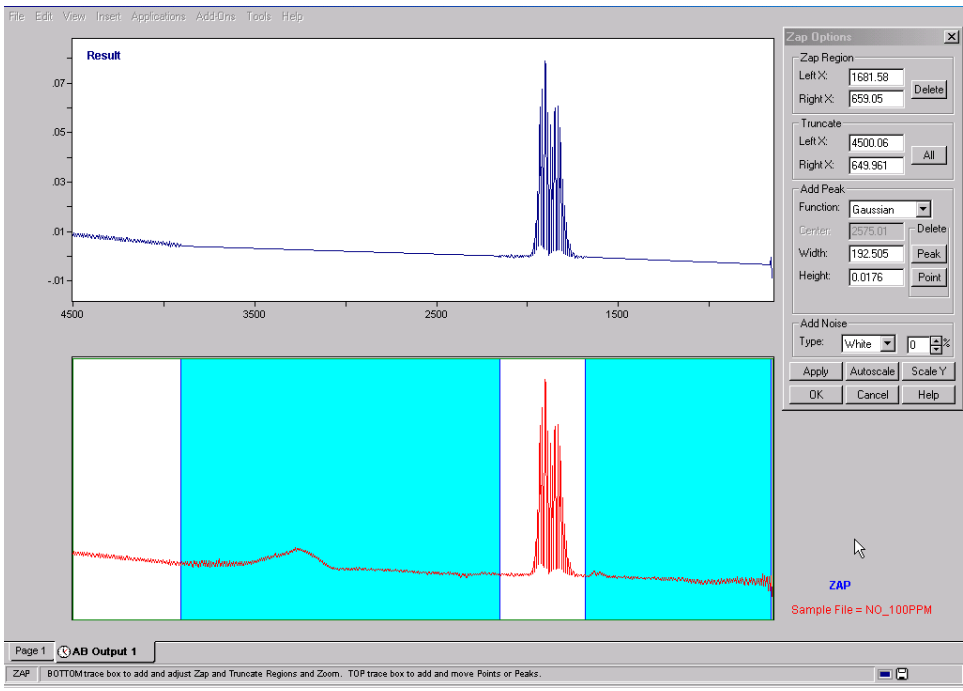

Figure 7.11 Zap Regions
- 2) Right click in the lower pane to select zap regions. These regions may be clicked and dragged until the desired area(s) are covered, as illustrated in Figure 7.11.